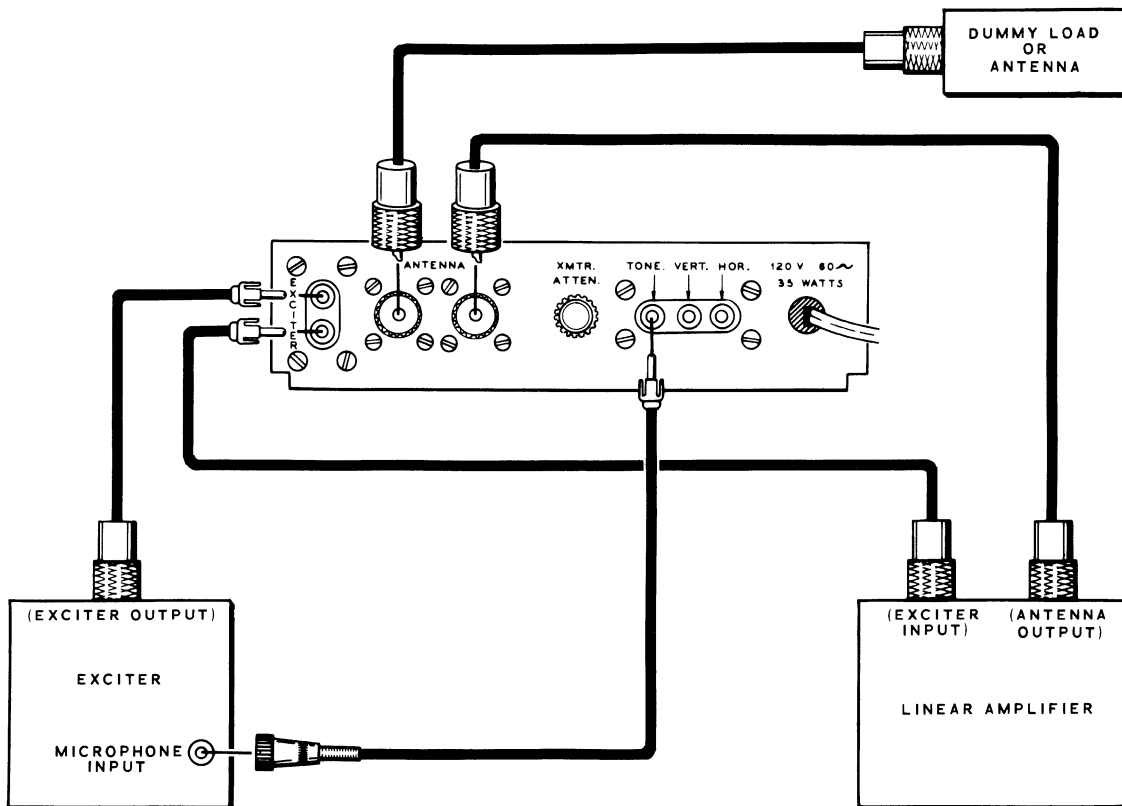

Figure 13
## RF TRAPEZOID PATTERNS (Figure 13)
To check a linear amplifier for linearity, it is necessary to compare the exciter RF output with the RF output of the linear amplifier. The setup used for this purpose is shown in Figure 13.
- ) Connect the other lead of the capacitor to lug 4 of the coil (NS).
- ) Connect the Scope to the transceiver as shown in Figure 13 on Page 37.